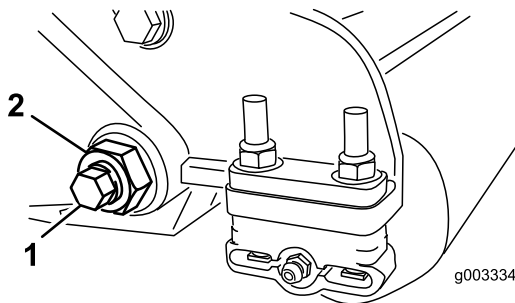

Figure 27
3. On each side of the machine, loosen the locknut securing the bedbar bolt (Figure 27).
4. Remove each bedbar bolt allowing bedbar to be pulled downward and removed from machine bolt (Figure 27).